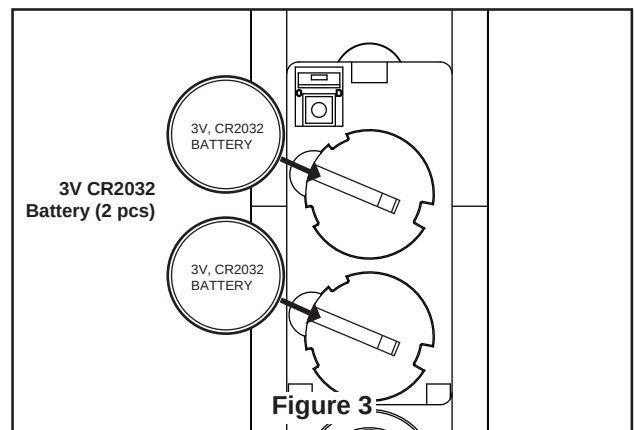

Figure 3
- ☐ **3.** To make fan operational, install 3V battery (included) in hand-held remote transmitter, with fan power off. Then follow the remote code setting process. (If not used for long periods of time, remove battery to prevent damage to transmitter). Store the remote away from excessive heat or humidity. (Figure 3)